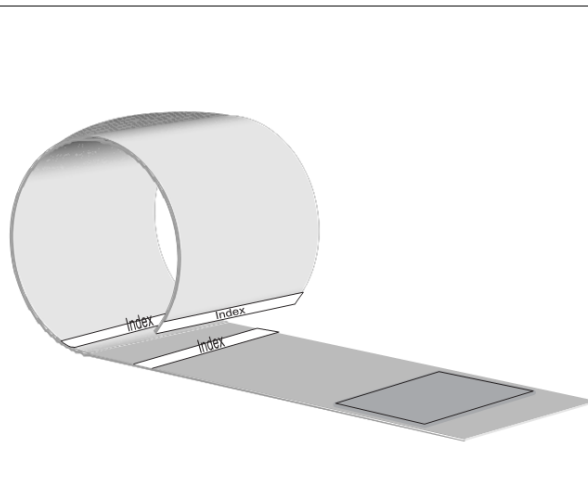

Fig. 4-2 Applying the cuff
- the dashed white line at the end of the cuff is located between the two dashed **Index** lines when you close the cuff (if this is not the case, select another cuff size, see Fig. 4-2),